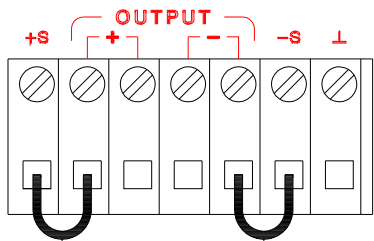

Figure 3-3. Rear local sensing connections
**Note** For rear local voltage sensing connections, the front shorting bars must be removed first and connect the sense wires as shown in Figure 3-3.